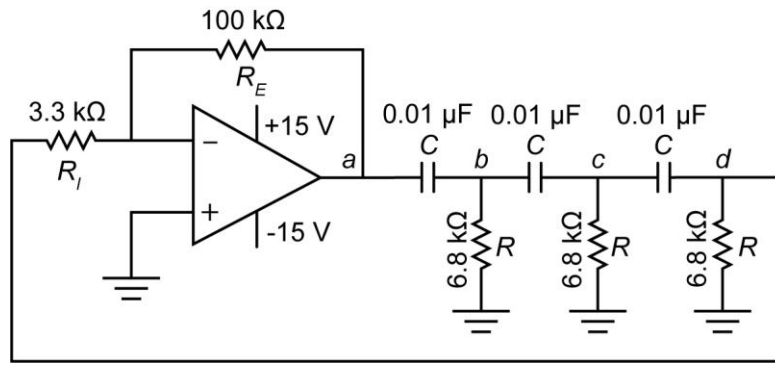

Fig.10.3: Phase shift oscillator employing an Operational amplifier IC 741.
A popular circuit of a phase-shift oscillator which makes use of the commonly available operational amplifier IC741 is shown in Fig.10.3. The prime reason why we chose this circuit is that although an inverting amplifier could be assembled using a BJT or an FET (see the circuits shown in Fig. 10.4a and b), such amplifiers do not exhibit the close proximity that an op amp exhibits as a perfect/ideal amplifier. As such, the deviation in the observed and expected frequency of the oscillator could be larger. Also, the availability of economical operational amplifiers is much better than conventional transistors.
The circuit in Fig.10.3 uses three RC sections that create **a phase lead of about 60° each** but if the positions of R and C are interchanged, the circuit works equally well creating phase lag around the three RC sections.
You can calculate that for the suggested component values in Fig.10.3, the frequency would be about 1 kHz.
1. Build the phase shift oscillator by assembling the circuit shown in Fig. 10.3 using a breadboard. You should use a combination of three fixed value resistors $3.3\text{ k}\Omega$ and capacitors $0.01\mu\text{F}$ (suggested) in the R - C network. Use a $100\text{ k}\Omega$ potentiometer as the feedback resistor in the inverting amplifier so that the gain can be adjusted to watch oscillations appear and disappear according to the compliance of Barkhausen conditions stated earlier.